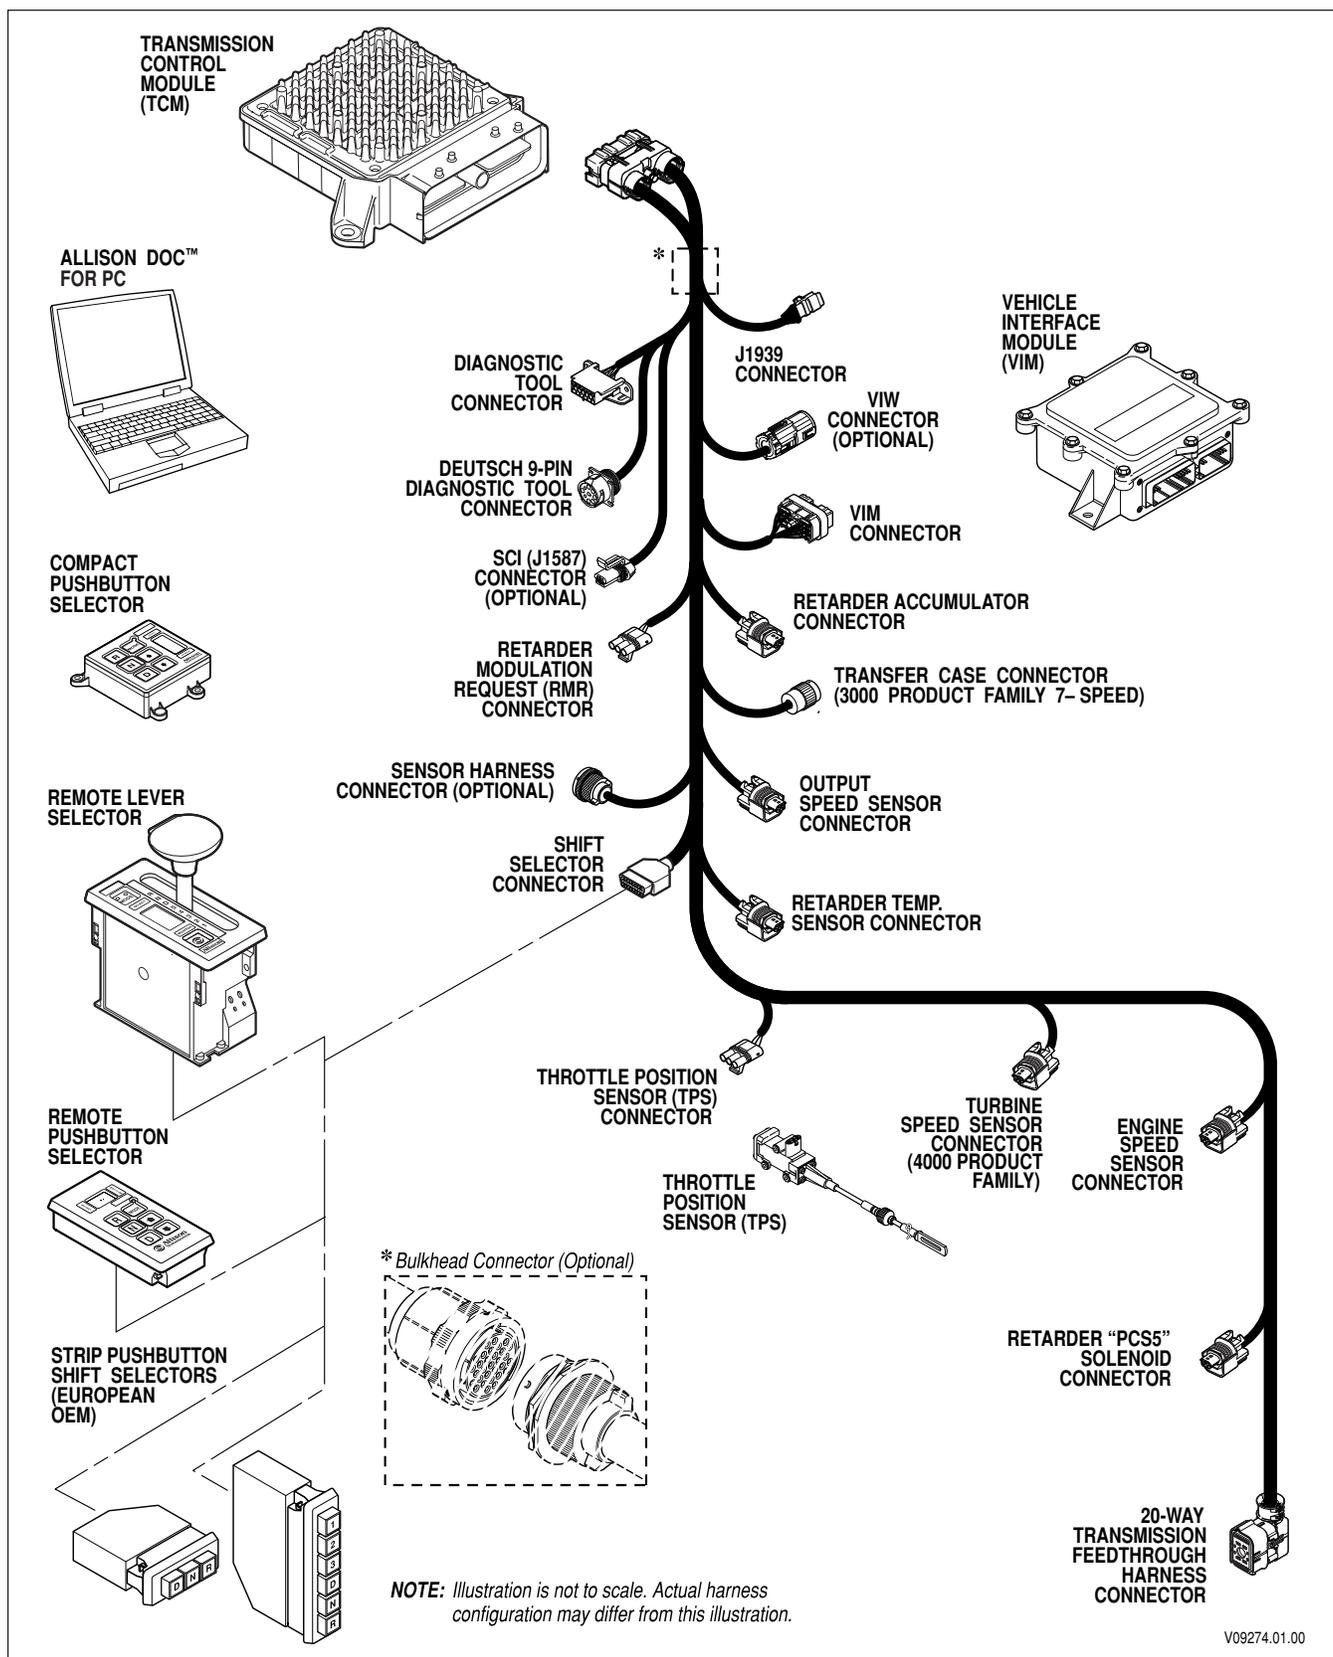

Figure 1–9. Typical 4th Generation Electronic Controls External Wiring Harnesses
B. Internal Wiring Harness (Figure 1–10)